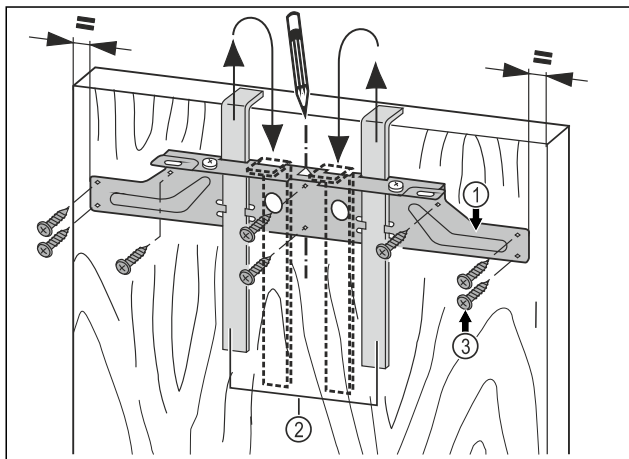

Fig. 40
- ▶ Hang the fastening bar *Fig. 40 (1)* with the mounting aids on the inside of the unit door *Fig. 40 (2)*.
- ▶ Align the fastening bar *Fig. 40 (1)* in the centre of the door.*
- ▶ Tighten the mounting bar *Fig. 40 (1)* with at least 6 screws *Fig. 40 (3)*.
- ▶ Screw the mounting bar *Fig. 40 (1)* to the edge with 4 screws *Fig. 40 (3)*.
- ▶ Pull the assembly devices *Fig. 40 (2)* upwards and push them, at an angle, into the receiving openings.